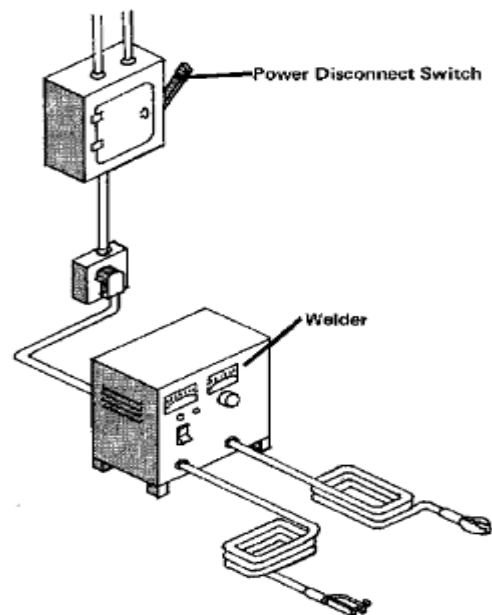

Figure 1. The power disconnect switch should be located close to the operator
- A safety-type disconnecting switch or controller shall be located near the machine (See Figure 1).